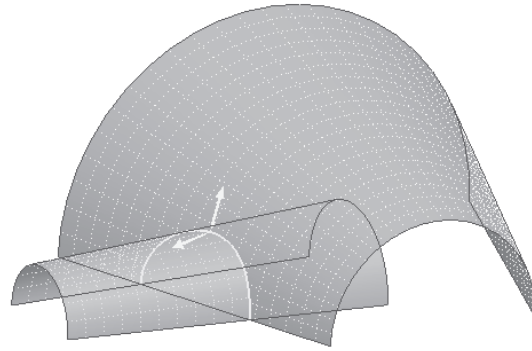

Figure 14-45 Arrows showing the part of the surface to retain
2. Choose the **Change side of first quilt to keep** button and then choose the **Change side of second quilt to keep** button. Notice that the outer side of the surfaces are highlighted with yellow dots, as shown in Figure 14-45.